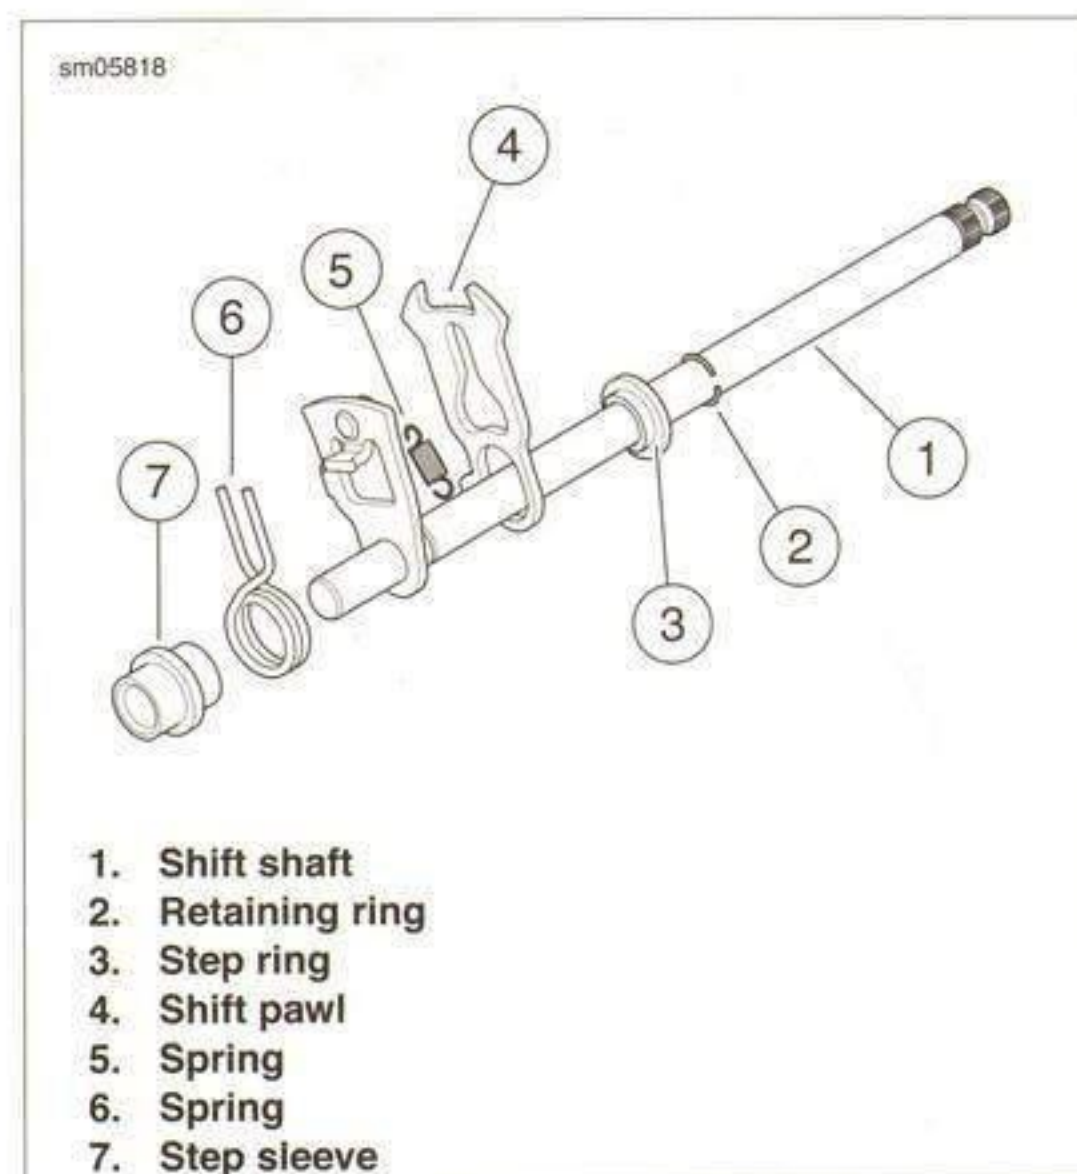

Figure 6-64. Shift Shaft Assembly
2. See Figure 6-64. Remove retaining ring (2) and step ring (3) from shift shaft (1).
3. Remove spring (5), then remove shift pawl (4), step sleeve (7) and spring (6) from the shaft.
4. See Figure 6-64. Install step ring onto shaft.